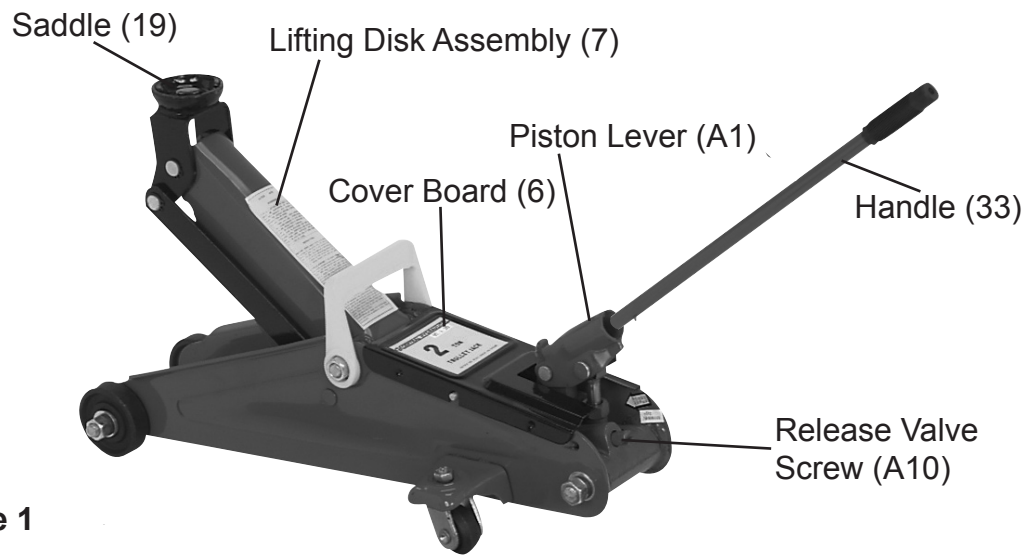

Figure 1
4. Make sure the Floor Jack is in it's lowest position. If it is not, insert the Handle (33) onto the Release Valve Screw (A10) and turn it counterclockwise. Once the Floor Jack is fully lowered, tighten the Release Valve Screw (A10) by turning it clockwise until it stops (but do not force the Release Valve Screw). (**Figure 1**).
6. Carefully position the Saddle (19) under the vehicle manufacturer's recommended central lifting point. **NOTE:** (See vehicle manufacturer's owners manual for location of frame lifting points of the Front or Rear end of the vehicle.) (See **Figure 1**).
7. Insert the Handle (33) into the Piston Lever (A29), and pump the Handle (33) until the Saddle (19) has nearly reached the vehicle lifting point. The Floor Jack should be positioned at 90° to the vehicle's lifting point to insure the Saddle (19) and lifting point are in alignment. If not, reposition the Floor Jack before lifting the vehicle (see **Figure 1**).
8. To lift the vehicle, pump the handle (33) of the Floor Jack. Use smooth, full strokes for best results, until the tires clear the ground.
10. Raise the saddle until it just touches the vehicle. Insert a lock pin into the proper slot on the jack stand. If the pinholes do not match, raise the vehicle slightly until the pinholes do align. Insert the pin. Remove the Handle (33) and insert onto the Release Valve Screw (A10), turn it gently in a counterclockwise direction to ease the vehicle onto the jack stand. Gently rock the vehicle to insure that it is stable on the jack stand. Lower the Floor Jack completely and roll it out from under the vehicle. If the tire is to be removed, prior to lifting, put the vehicle in gear and engage the emergency brake and loosen the lug nuts. **Note:** When using two jack stands, they should both be raised to the same height.
12. When using two jack stands (not supplied), insert the lower end of Handle (33) into the Release Valve Screw (A10) and *slowly* (never more than two turns) turn the Release Valve Screw (A10) counterclockwise to ease the vehicle onto the saddles of the jack stands. Shut the Release Valve Screw when the Floor Jack has cleared the vehicle.
15. Insert the Handle (33) into the Release Valve Screw (A10) of the Floor Jack and turn it firmly clockwise. Insert the Handle (33) into the Piston Lever (32) and pump the Handle (33) to raise the vehicle slightly above the saddle of the jack stand(s). Remove the jack stand(s) (not supplied) from under the vehicle to a safe distance.
16. Remove the Handle (33) from the Hydraulic Unit Assembly (32) and insert it onto the Release Valve Screw (A10). Slowly turn the Release Valve Screw (A10) counterclockwise (never more than two full turns) to lower the vehicle to the ground (see **Figure 1**).
17. To prevent accidents, when finished using the Floor Jack, remove the Handle (33) and store the tool indoors out of children's reach.